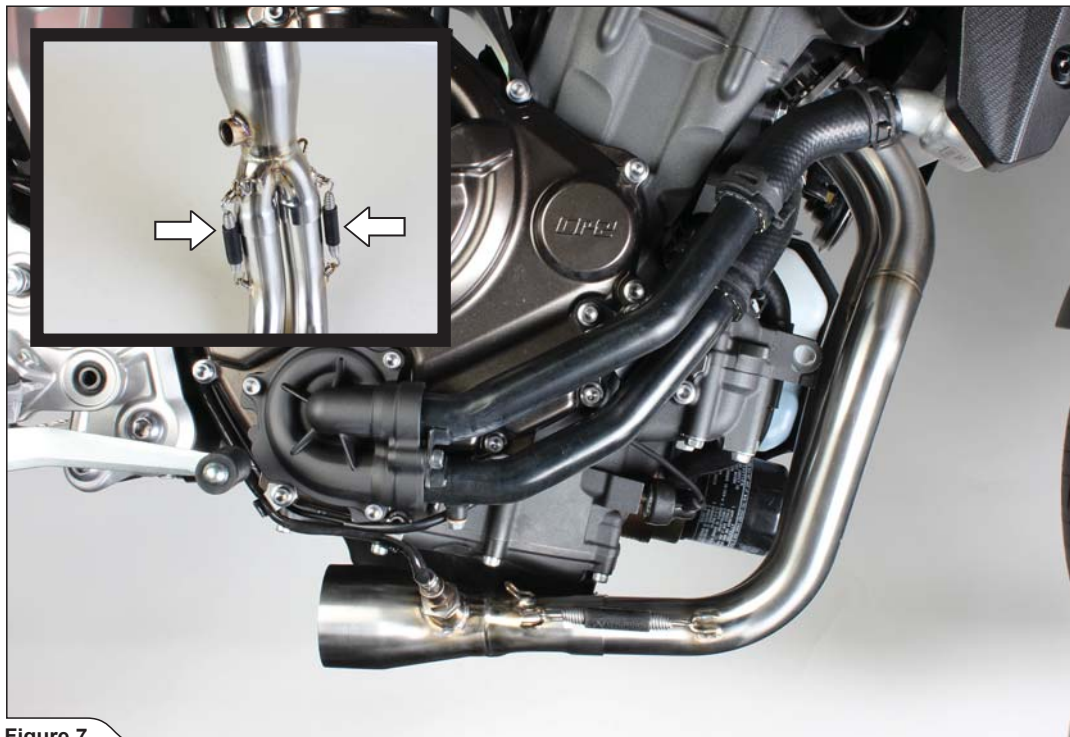

Figure 7
1. Assemble the headers and collector, attach the springs. Install the Akrapovič headers onto the motorcycle and hand tighten the flanges onto the cylinder head (using stock nuts) and tighten the lambda sensor into the collector (**Figure 7, 8, 9**).